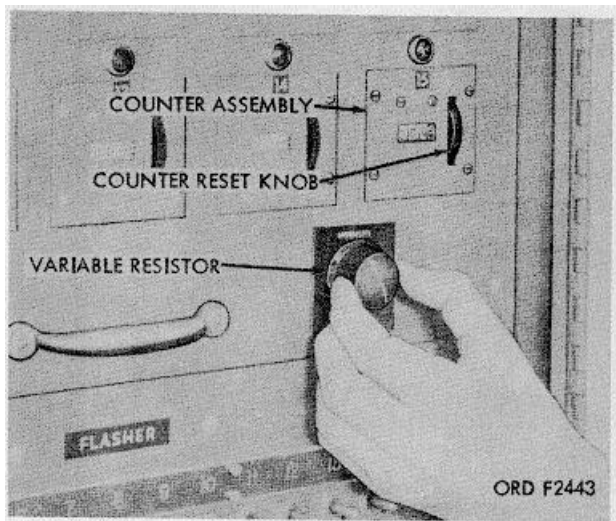

Figure 12. Operating variable resistor on counter chassis assembly.
d. Operate the variable resistors (par. 13) to turn on and to adjust the intensity of illumination required for the target indicator lights and the panel lights (fig. 12 and 13).